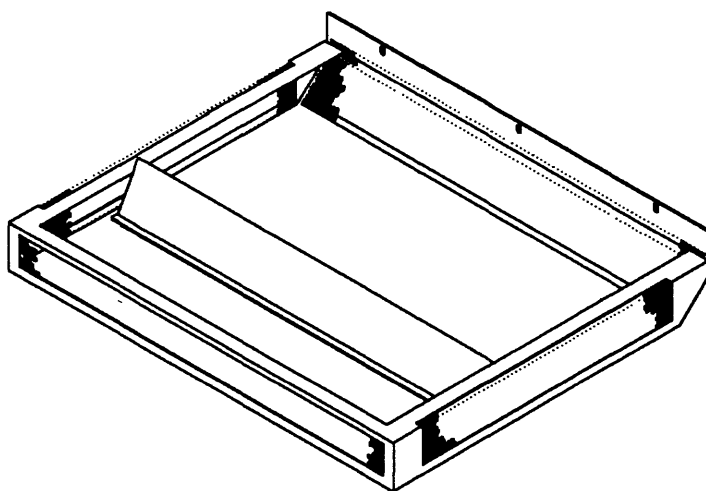

Figure 1-7. Front Ground Plate Assembly P/N 03F4617
- Step 11. ____ Install the front ground plate assembly P/N 03F4617 (see Figure 1-7). Slide the assembly under the 3745 from the front of the machine, and fasten it using three screws P/N 1621210.